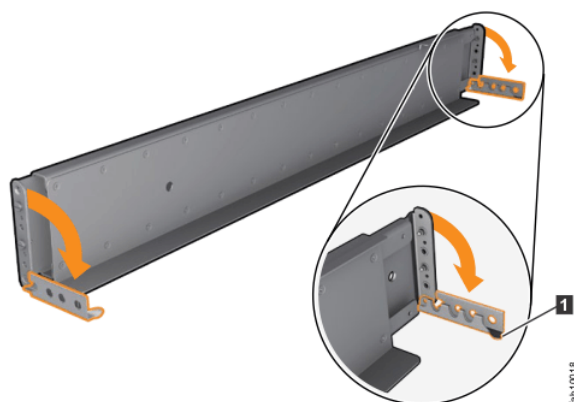

Figure 35. Opening the hinge brackets
6. At each end of the rail, grasp the tab **1** and pull *firmly* to open the hinge bracket (see Figure 35 on page 66).